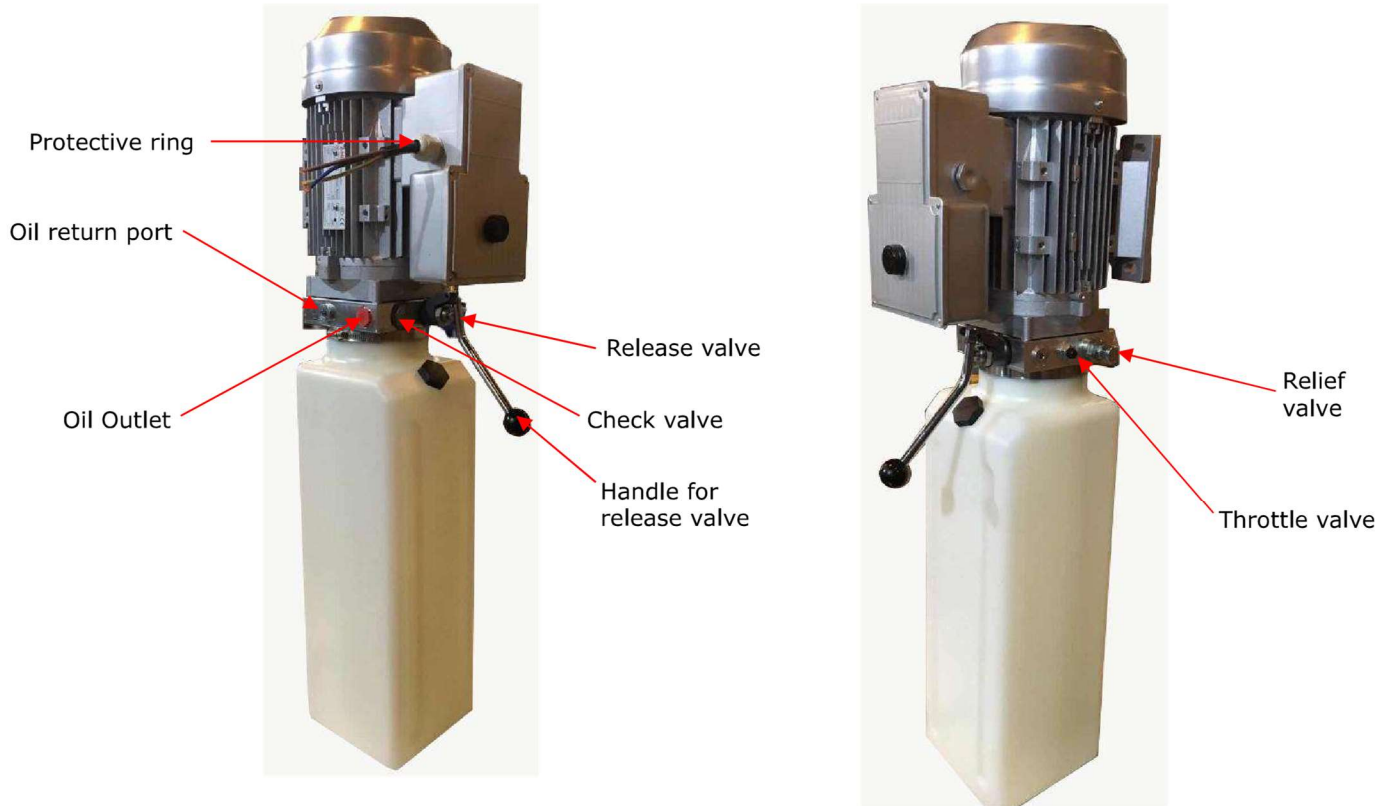

Fig 42
a. Manual power unit, 220V/50Hz, Single phase (See Fig. 42)